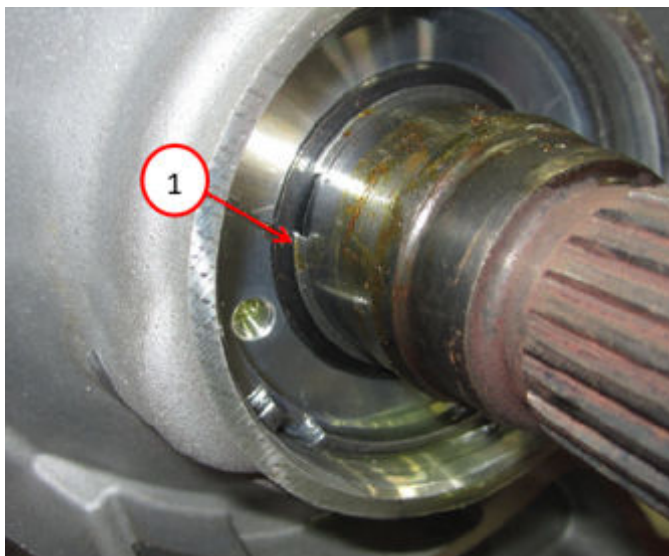

Fig. 5
6. Remove the output shaft flange locknut staking Fig. 5.